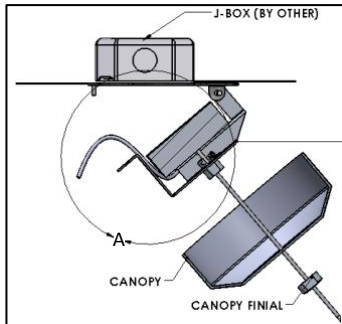
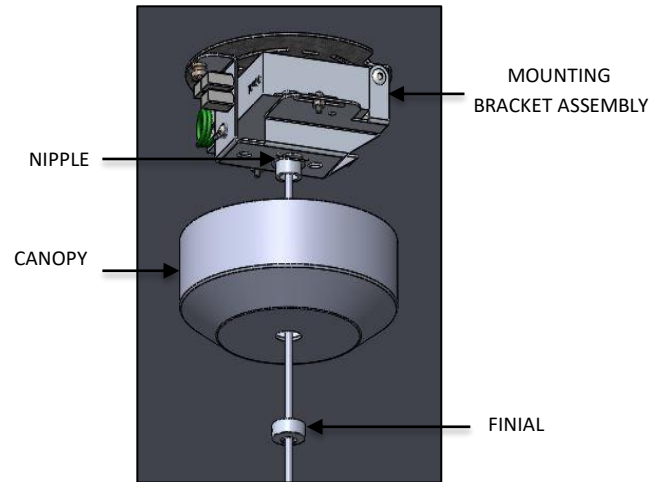

FIG. 21 - CORD INSTALLATION
FIG. 22 - FINIAL INSTALLATION
12. Raise CANOPY and secure to ceiling by threading the FINIAL to the NIPPLE (in MOUNTING BRACKET ASSEMBLY) as shown below in FIG. 21 and FIG. 22.